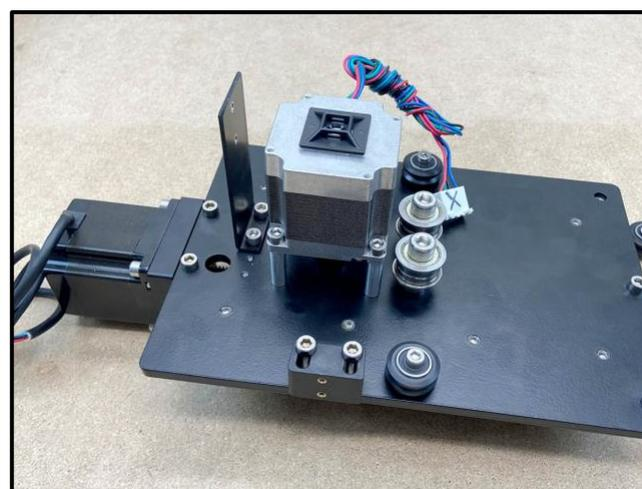

Figure 10
4. Install the X-motor. See **Fig. 10**.
- a. Align the X-motor with the four (4) standoffs, Carbide 3D label facing down toward the idlers.
- b. Use a 4mm hex key and four (4) M5×10mm SHCS to secure the X-motor.